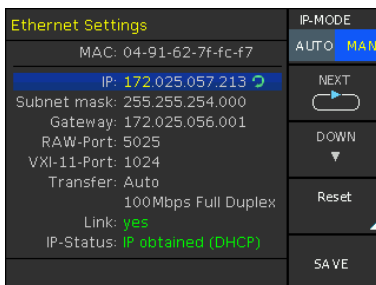

Figure 4-2: Ethernet settings dialog
3. **NOTICE!** If the R&S NGC100 cannot obtain an IP address automatically, or cannot establish the connection, the "Link" status shows "no" in the Figure 4-2.
If switched on and connected, the R&S NGC100 indicates the address information and LAN parameters in the Ethernet setting dialog. See Figure 4-2.